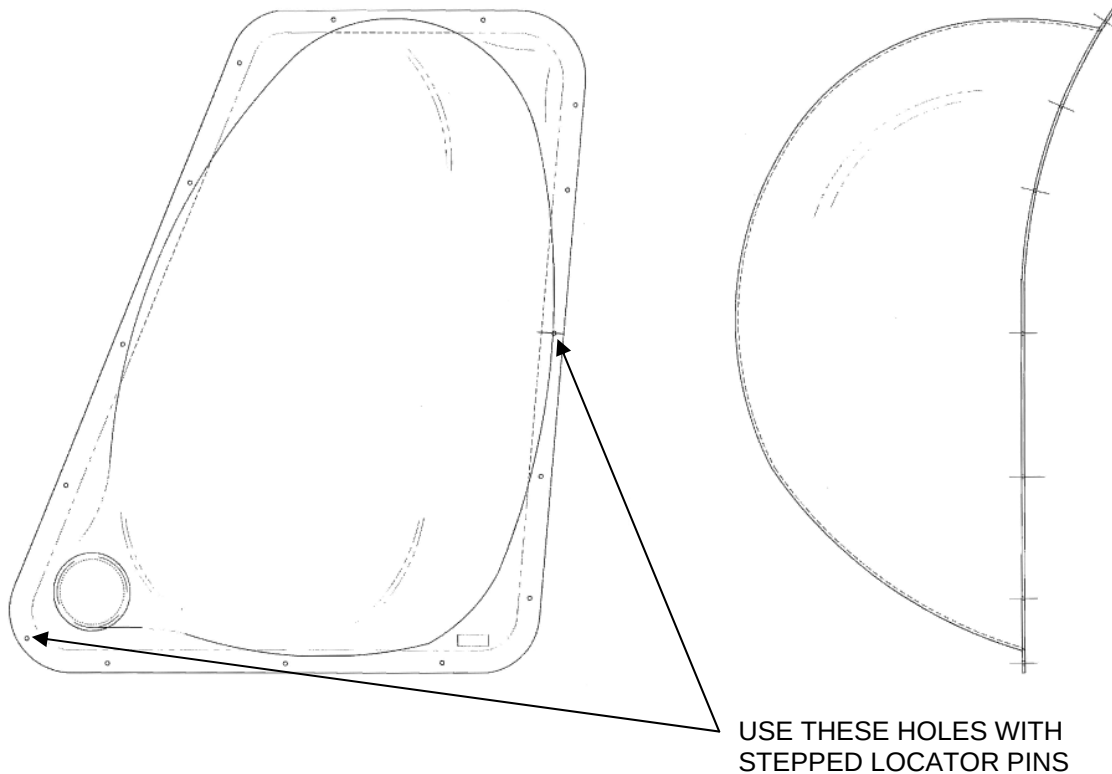

Figure 2 – 407-1011-13 Left-Hand Crew Bubble Window
- n. (Enlist the help of one or more assistants for this step) Carefully position the window near its installed location – do not allow the tape to touch the door frame at this time. Insert the two stepped locator pins through the holes in the window (as specified in Figure 2) and through the corresponding holes in the door flange.